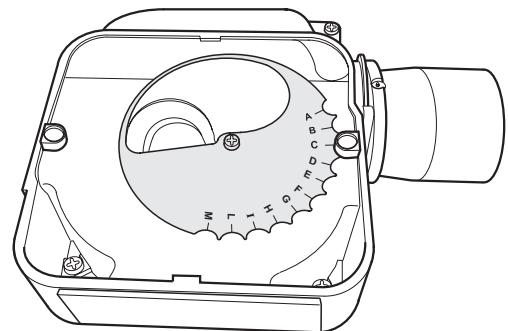

Fig. 23 - 15/21 burner air adjuster disc (shown set to position 'C')
4. The secondary air shutter disc is factory set in position 'C' – i.e. with the cut-out marked C located against the die-cast boss on the fan housing. See Fig 23.